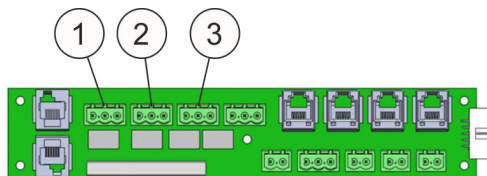

Fig. 73: Connecting terminals
- Connecting terminal for relay output „Pre-alarm” (Fig. 73 /1)
- Connecting terminal for relay output „Fire alarm” (Fig. 73 /2)
- Connecting terminal for relay output „Extinguishing” (Fig. 73 /3)